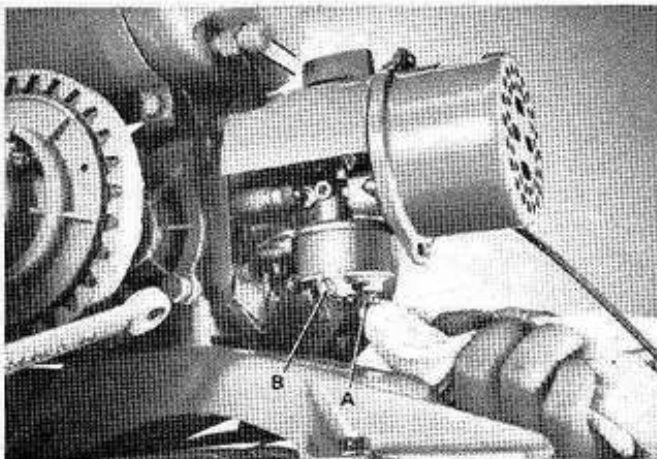

Figure 43. Fuel Check.
To troubleshoot the fuel system, first remove the fuel tank cap. Check to be sure the cap is air vented, since atmospheric pressure must be allowed to enter the fuel tank or a vacuum will develop and shut off the fuel flow. Check the fuel supply and fill the tank if it is below 1/4 full. Drain and replace the fuel if it was not properly drained after last season. Next, hold in the drain button (A) at the bottom of the carburetor for approximately 20 seconds to allow fuel to flow steadily out of the drain. (See Figure 43.) If fuel does not flow freely, check for a fuel restriction in the shut-off valve on the tank, or the hose leading from the tank. If no problems are noted, check the needle and seat assembly or the float inside the carburetor for malfunctions. At this point, remove the high-speed adjustment needle (B) from the carburetor, by turning it counterclockwise, and allow fuel to flow from the hole for five seconds. If it does not flow steadily, the lower section of the float bowl housing is probably in need of cleaning. Replace the high-speed adjusting needle and tighten it until it gently bottoms. Then unscrew it one full turn. At this point, attempt to start the engine by following the procedure outlined on page 33. If the engine will not start, refer to the section entitled, Carburetor Disassembly And Cleaning on page 60.